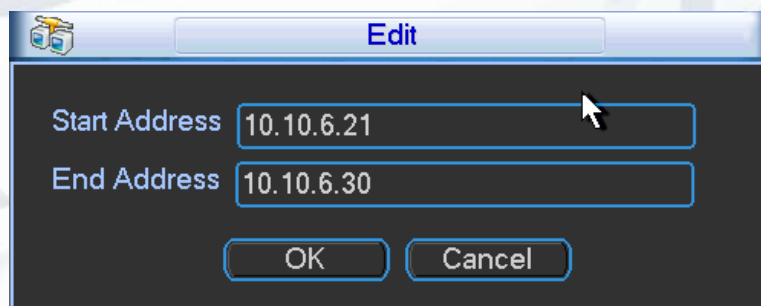

Figure 5-29
- **Edit:** Click it to edit start address and end address. See Figure 5-29. System can check the IP address validity after the edit operation and implement IPv6 optimization.